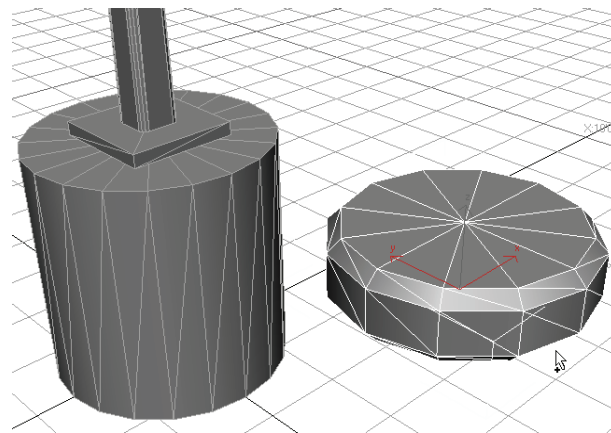

Figure 3–15
2. Next to the base (LP Base), click and drag the left mouse button to size the radius to roughly **2'0"** (Keep looking in the Parameters rollout in the Command Panel where the Radius changes interactively as you move your mouse). After releasing the mouse button, move your cursor up the screen slightly to give the cylinder a height of approximately **1'0"**. Click a second time to set the cylinder height. Then move the cursor up and down the screen until you can roughly define a **0'2"** fillet. Complete the object creation process with a third click. The object should display as shown in Figure 3–15.